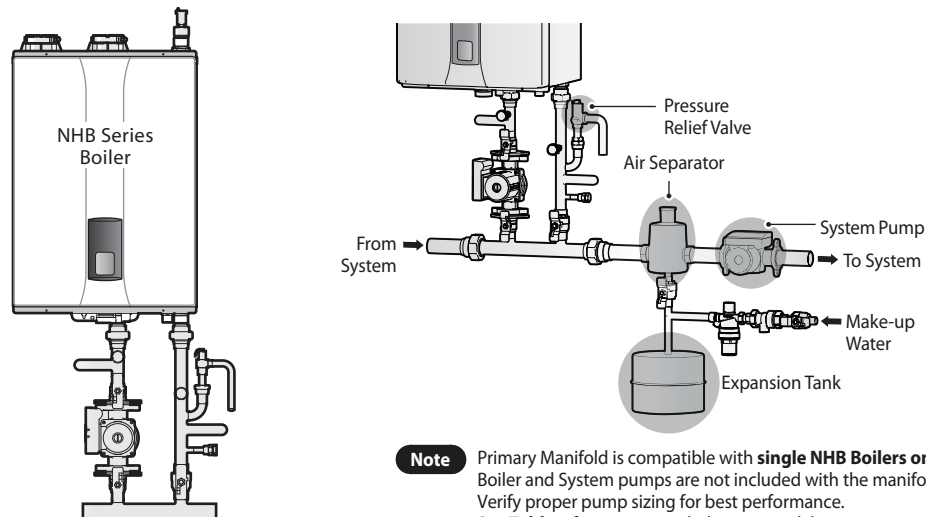

FIGURE 2: Primary Manifold Piping Setup with Accessories
- Install any required accessories such as an air separator, expansion tank, check valve, etc. on the heating supply side as illustrated in **FIGURE 2** below.